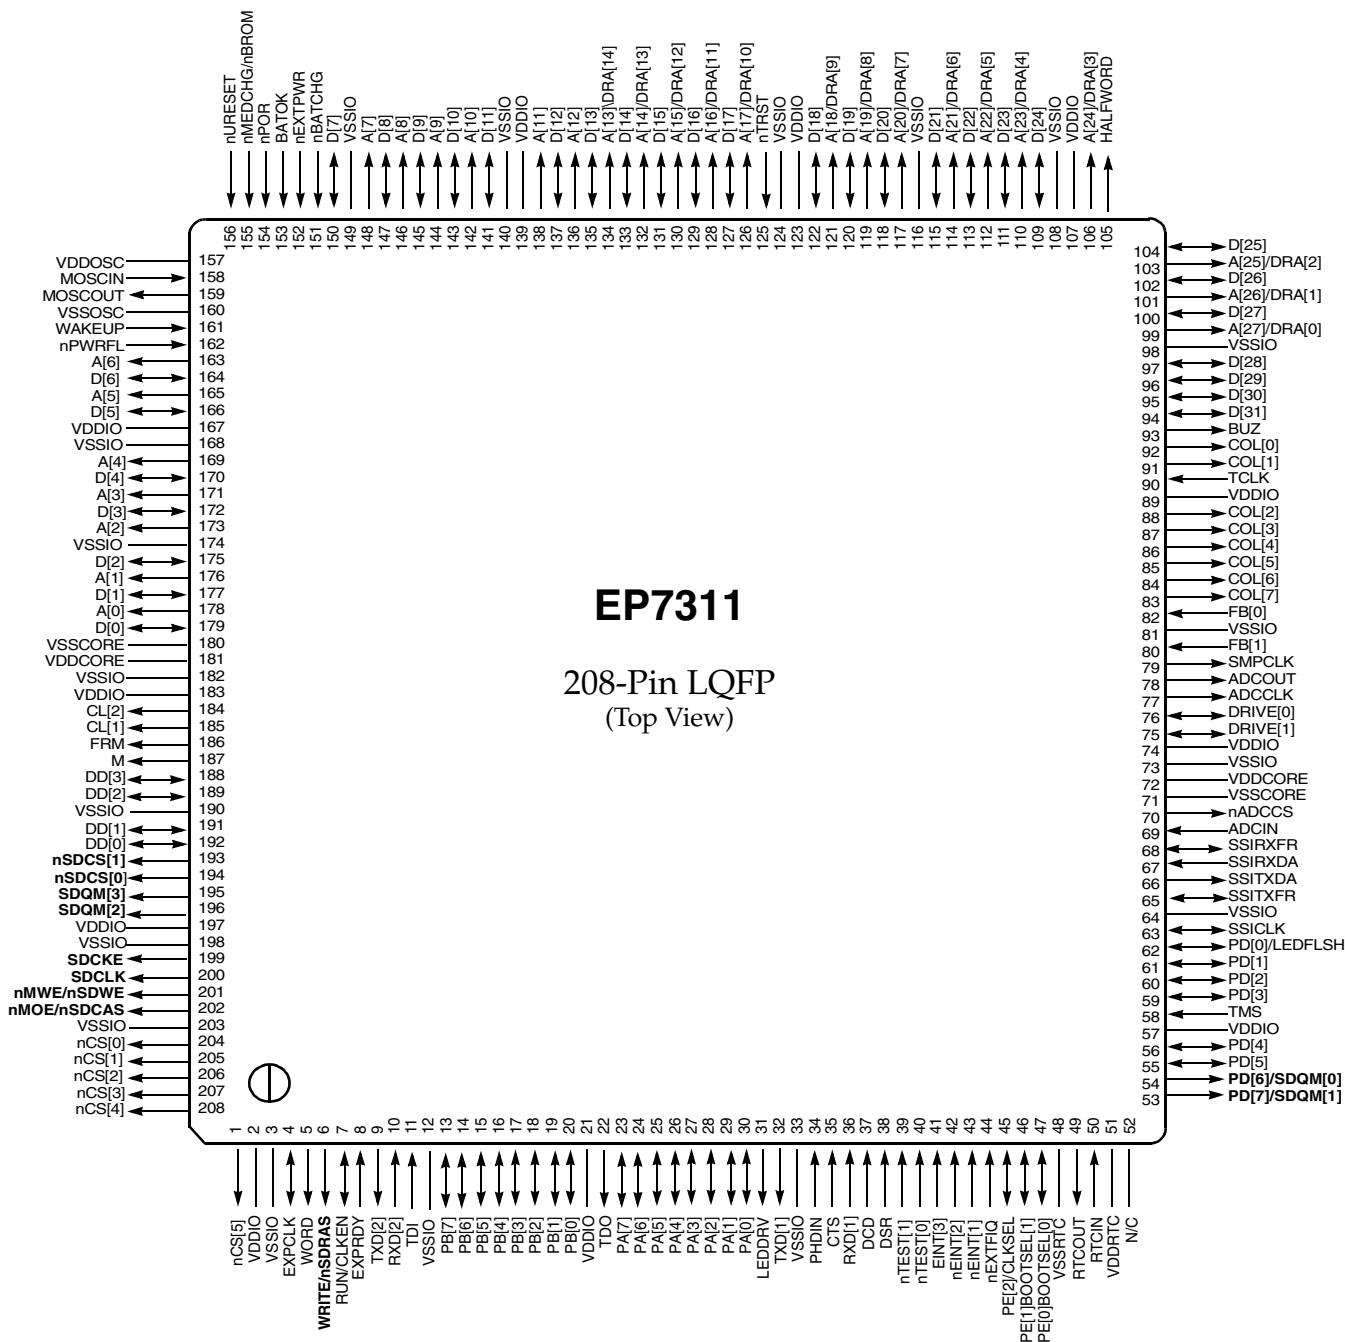

Figure 15. 208-Pin LQFP (Low Profile Quad Flat Pack) Pin Diagram
- 4) For pin locations, please see Figure 15. For pin descriptions see the EP7311 User's Manual.